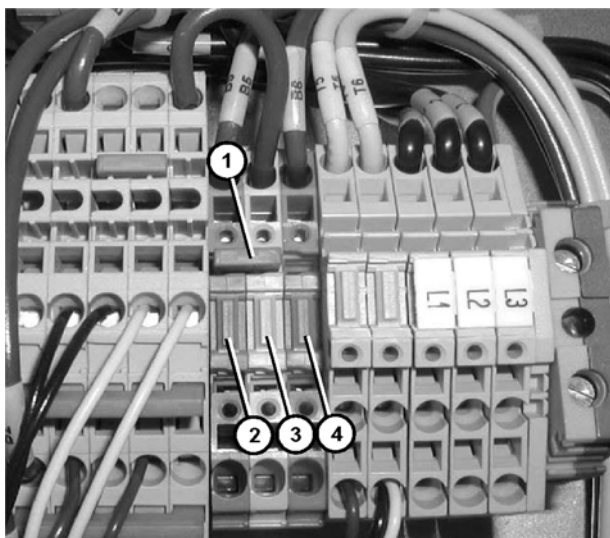

Figure 16
| Remove the direction jumper (Figure 16, item 1) from the terminals. This jumper is not required. |
Connect remote machine interface wires to the terminals (**Figure 16, item 2, 3 and 4**).
Closing a contact between the blue terminal (**Figure 16, item 2**) and the white terminal (**Figure 16, item 3**) will cause the control to run the motor in the forward direction.
Closing a contact between the white terminal (**Figure 16, item 3**) and the orange terminal (**Figure 16, item 4**) will cause the control to run the motor in the reverse direction.